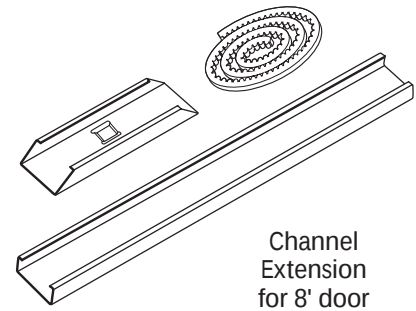

Figure 3 Channel Extension Kit
- B If your door height is above 7'-6", you may need a channel extension kit (Figure 3). If there is any question contact your Customer Service Representative at **1-800-784-5028**.